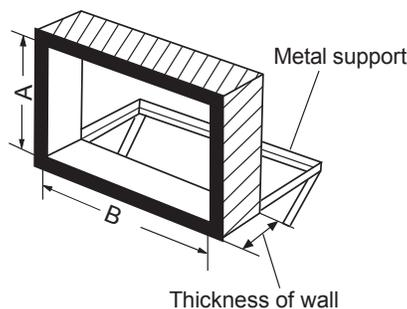

Fig.1
1. Make a wooden frame. (Fig.1)